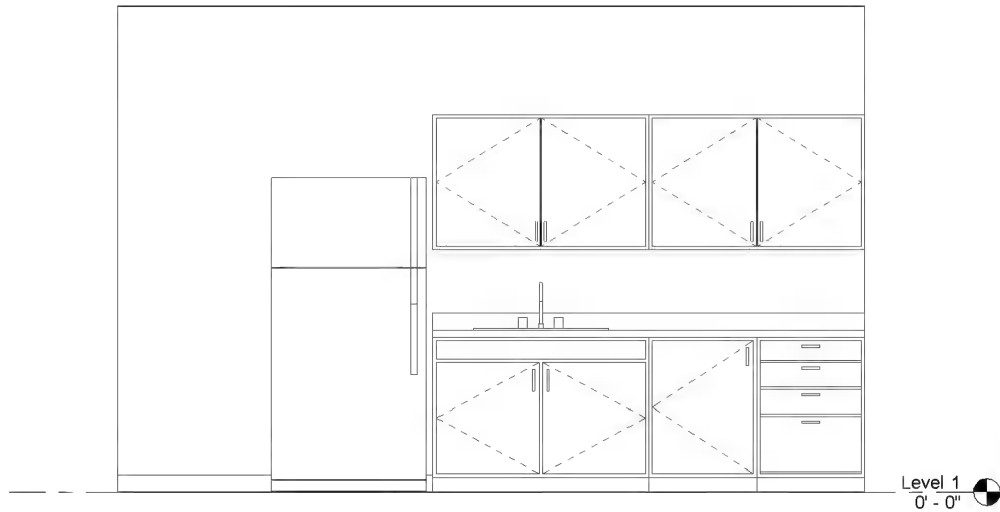

FIGURE 11-2.5 Interior elevation
11. Your view should look like **Figure 11-2.5**.